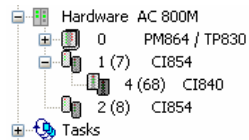

Figure 4.7: Redundant CI840 in hardware-Tree
2. The icon changes to the redundancy icon and the text is updated with backup position within parenthesis (see Figure 4.7). The position for the backup unit will be calculated automatically (see also Slave Redundancy on page 26). The position of the backup module is given by the fixed offset of +64 to the position of the primary module.